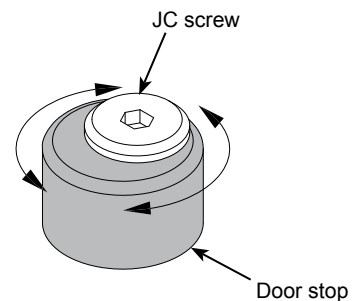

Figure 3
1. To rotate, loosen the JC screw slightly with a 4mm hex wrench. **Figure 3.**